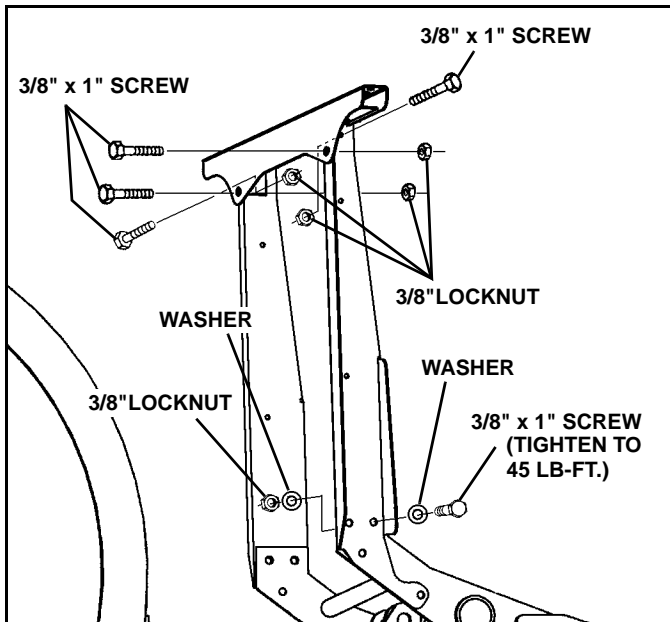

Figure 1-14
7. Remove left and right light support from power pack carton. Secure each light bar support to lift/light bar with (4) 3/8" x 1" screws, (8) washers and (4) lock nuts from the light bar parts bag, part number 96106089. Do not tighten at this time. (See Figure 1-14).
8. Secure light bar to supports with (4) 3/8" x 1" screws and lock nuts. Align light bar supports to vertical position and tighten all light bar hardware. Tighten eight lower screws to 45 lb-ft. (See Figure 1-14).